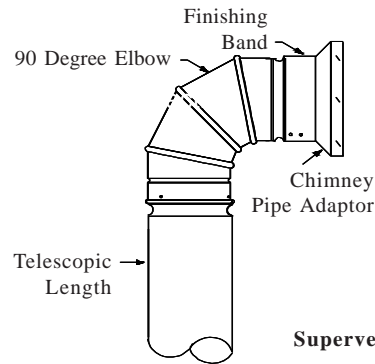

Figure 2A
Step 4. On a Through-The-Wall Installation with a 90 degree elbow, it may be necessary to cut the Chimney Pipe Adaptor and/or the Finishing Band to the required width to be covered. Ensure that the Finishing Band overlaps the crimped end of the DSP and overlaps the bead snug to the beveled edge or to the Basecap as per Figure 2A & 2B.